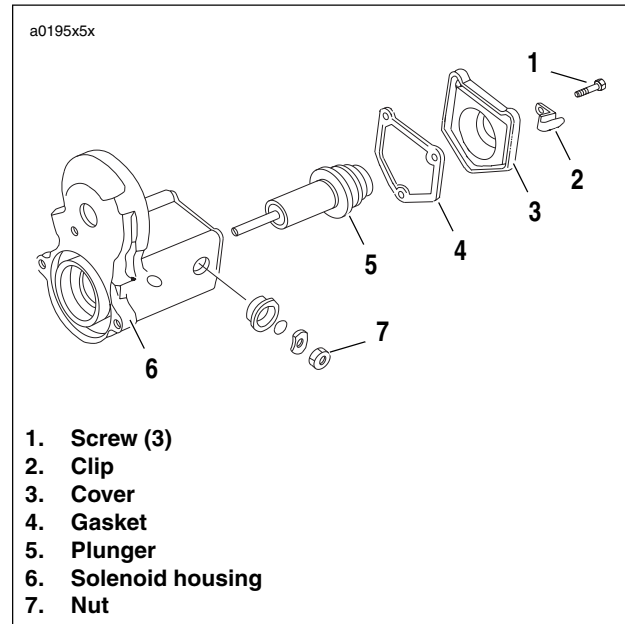

Figure 5-29. Starter Solenoid
See Figure 5-29. Do not tighten nut (7) without removing items 1-5. Movement will cause damage to the contact.
1. See Figure 5-29. Remove screws (1) and clip (2).
2. Remove cover (3) and gasket (4). Discard gasket.
3. Remove plunger (5) from solenoid housing (6).
1. See Figure 5-29. Replace wire connection hardware as necessary.
2. Install plunger (5) in solenoid housing (6).
3. Install **new** gasket (4) onto cover (3).
4. Position cover with gasket onto solenoid housing. Install clip (2) and screws (1).